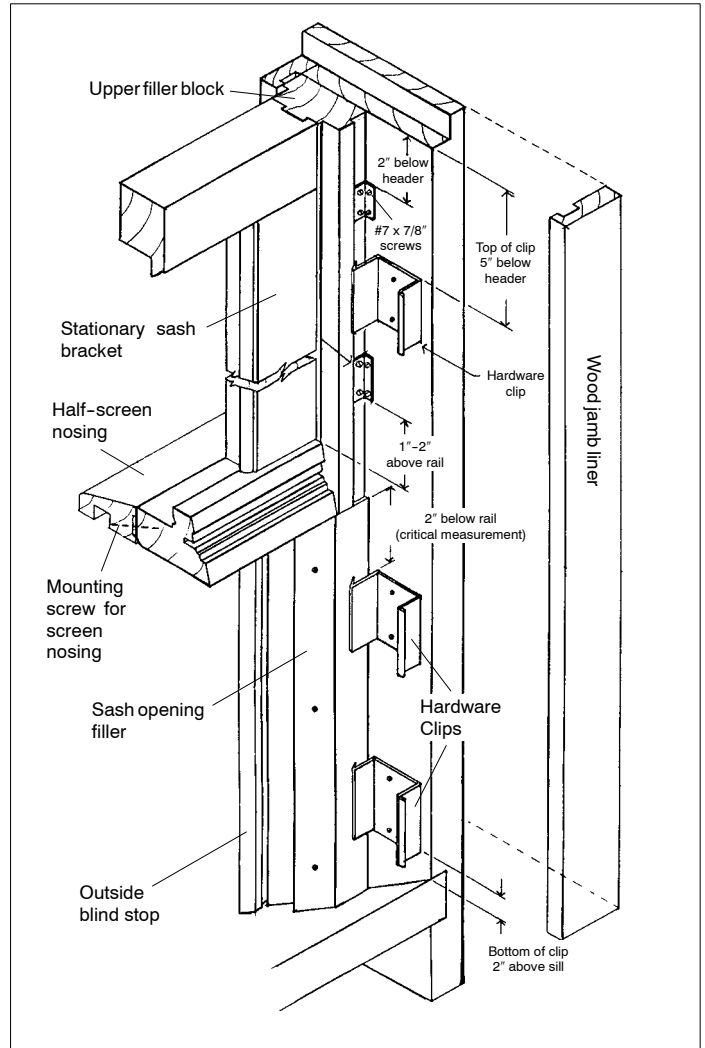

Figure 4
6. Install the sash opening filler strip, butt it against the blindstop and the sill. Nail in place with finishing nails. See figure 4. If the sill bevel is not the standard 14 degrees, the sash filler should be trimmed to fit the bevel. Trim from the short side to the long side. The length of the short side should remain the same.
7. Install the stationary sash brackets on the sash using the #7 x 7/8" screws provided. The unit has been pre-drilled for correct placement. See figure 4.
8. Install the top sash above the sash opening filler strip and fasten it into the frame using the #7 x 7/8" screws. See figure 4.
(Refer to Figure 4)
**NOTE: DO NOT PLACE THE HARDWARE CLIPS OVER THE STATIONARY SASH BRACKETS!** See figure 4.
- Pre-drill the 1/2 screen nosing as indicated on figure 4. Install it flush with the bottom of the check rail and fasten into place with wood screws. (See figure 4 for mounting location.)